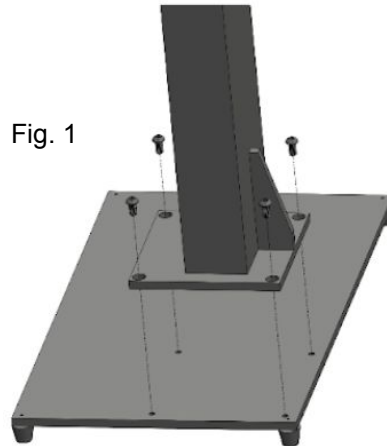

Fig. 1
2. Use the 8 x 16 screws to fasten the base to the stage. (See Fig.1)